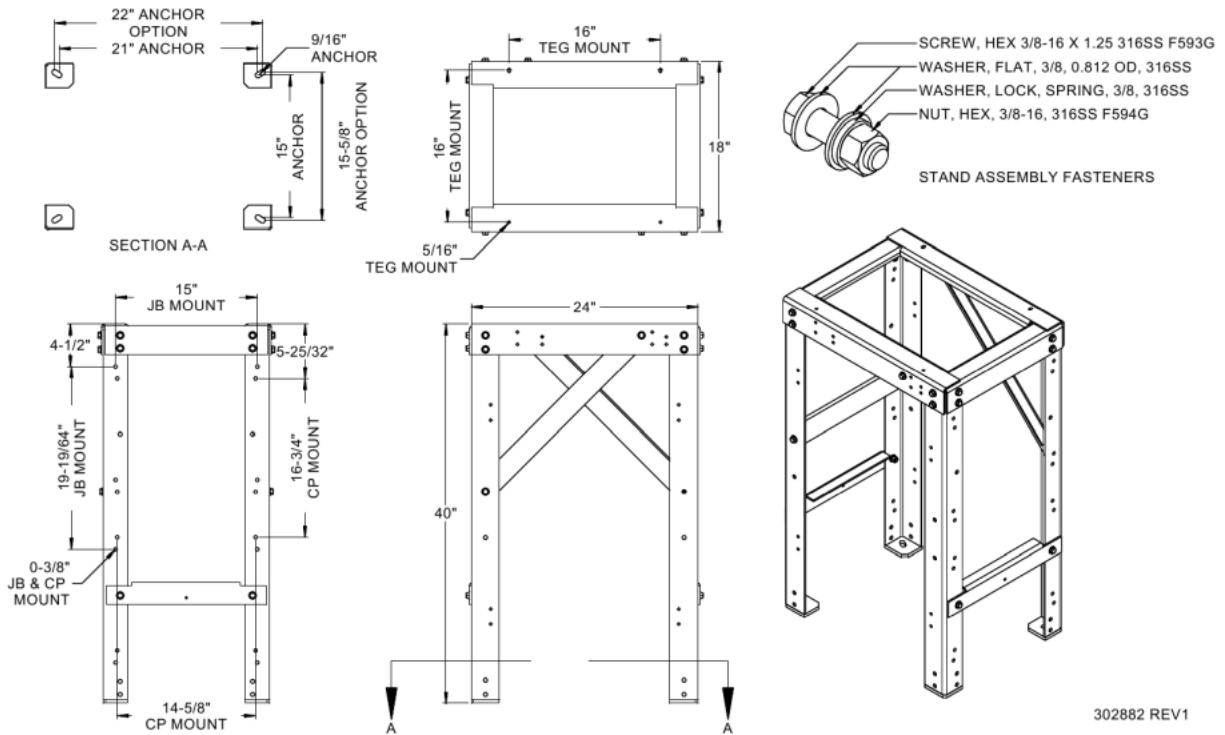

Figure 7 – TEG Stand
- If the TEG was shipped with the optional TEG stand, assemble the stand as shown on Figure 7 and install it on a stable, level base. If the TEG does not have the stand option and a custom platform or stand has already been installed, confirm that the stand is bolted securely to the base level and does not deviate by more than 3°, then proceed to the next step.